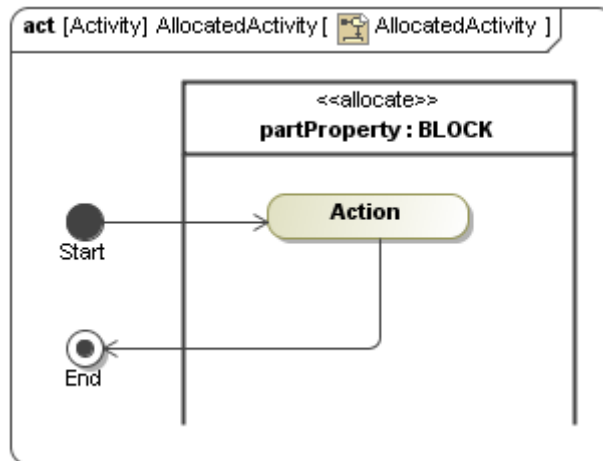

Figure 191 -- partProperty Allocated to the Stereotyped Swimlane
2. Drag a property, for example, **partProperty : BLOCK**, to the stereotyped swimlane header (Figure 191).